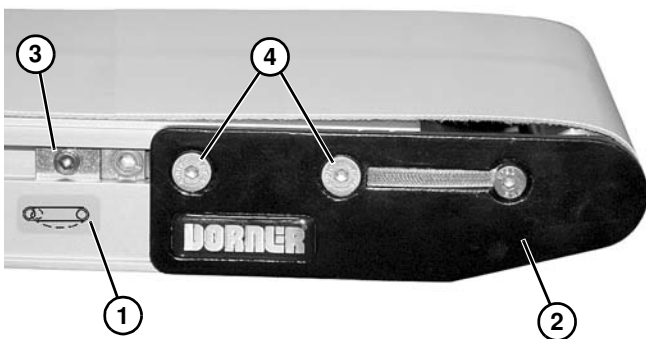

Figure 37
2. On tension end of the conveyor, identified with  a label (**Figure 37, item 1**), push in head plate assembly (**Figure 37, item 2**):
- a. On both sides of conveyor, loosen and move cam tracking assemblies (**Figure 37, item 3**) (if equipped) away from head plates.
- b. Loosen fastening screws (**Figure 37, item 4**) and push head plate assembly inward.
***Figure 37** shows a vertically mounted gearmotor. Horizontally mounted gearmotor is similar.*